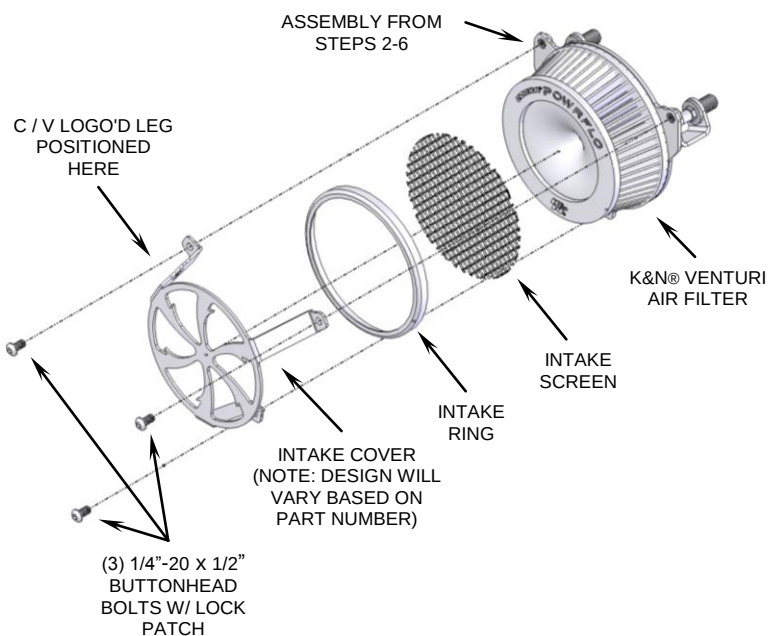

FIGURE 2
7. Place the supplied K&N® filter onto the velocity stack. Insert the round intake screen into the chrome ring so the screen sits inside the edge of the ring. Place the ring and screen between the legs of the naked chrome intake cover as shown in Figure 2.
8. Place the naked intake cover, ring and screen assembled in Step 7, over the air filter and align each leg to the base mounting plate threaded holes. Be sure screen sits at a 45 ° angle to the bottom leg, and C/V logo'd leg is at the upper left position. Insert the (3) supplied 1/4"-20 x 1/2" buttonhead bolts through the intake cover and into the base mounting plate, see Figure 2. Double check all parts are aligned properly and tighten securely.